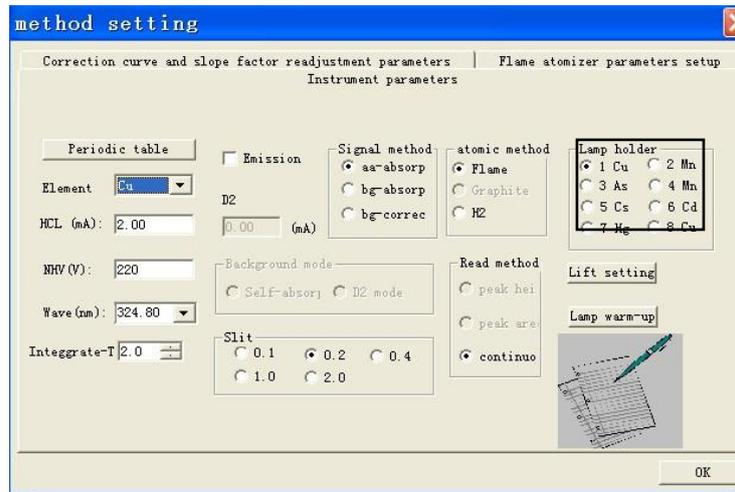

Figure 4-26
12. Lamp holder position: There are eight radio boxes (1, 2, 3, 4, 5, 6, 7 and 8) for the lamp holder position, and select one option for the position, as shown in Figure 4-26.